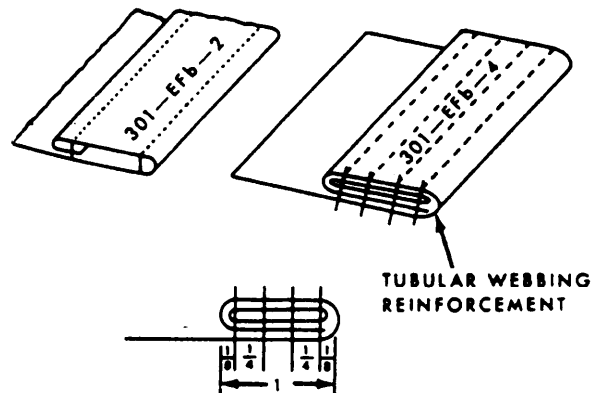

Figure 10-36.—Edge finishing stitching.
**CLASS OF STITCHING.**— You form class EF (edge finishing) stitching by using the edge of a single ply of material to make the hem. The EFb-4 stitching, as shown in figure 10-36, is made by folding the edge back twice, thus turning the cut edge inside the second fold to prevent fraying and to reinforce the hem. The hem may also include a piece of reinforcing tape, plain or tubular webbing for adding strength. All seams